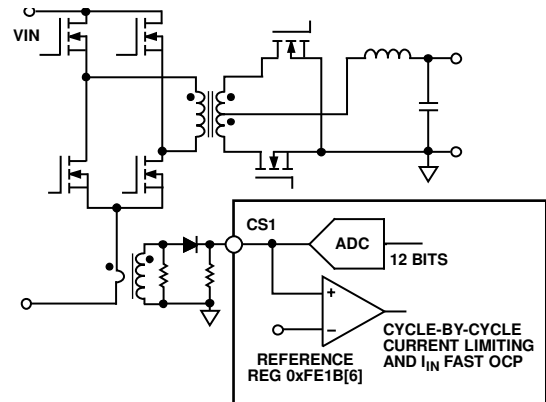

Figure 25. Current Sense 1 (CS1) Operation
Current Sense 1 (CS1) is typically used for the monitoring and protection of the primary side current, which is commonly sensed using a current transformer (CT). The input signal at the CS1 pin is fed into an ADC for current monitoring. The range of the ADC is 0 V to 1.60 V. The input signal is also fed into an analog comparator for cycle-by-cycle current limiting and I_{IN} overcurrent fast protection, with a reference of 0.25 V or 1.2 V set by Register 0xFE1B[6]. The typical configuration for the CS1 current sense is shown in Figure 25.